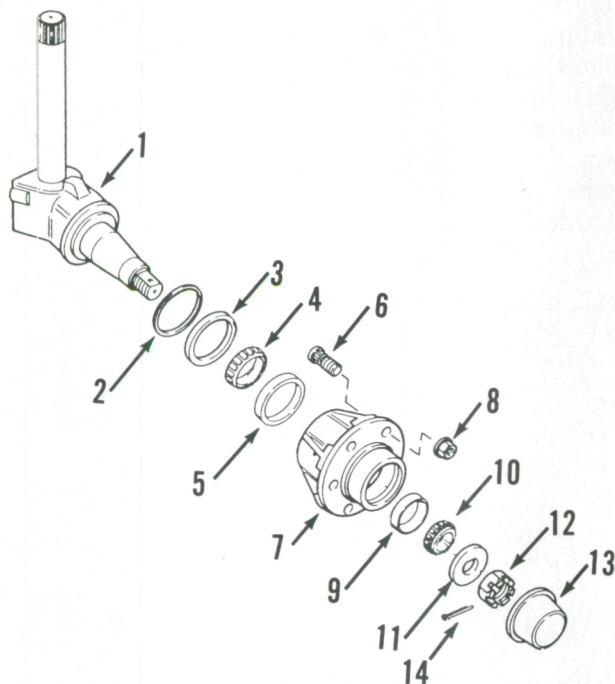

Fig. 1—Exploded view of steering knuckle, front wheel hub and bearings used on all two-wheel-drive tractors.
1. Refer to Fig. 1 for typical wheel hub and bearing assembly.